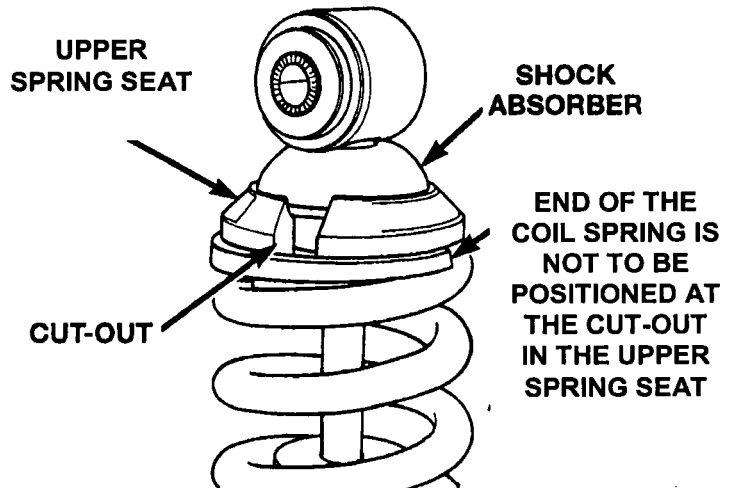

Figure 30
4. Compress the coil spring enough to allow the coil spring upper seat to be removed (Figure 30).
CAUTION: When installing the upper spring seat, be sure the end of the last coil of the coil spring is not positioned at the cut-out notch in the spring shim or upper spring seat (Figure 30).